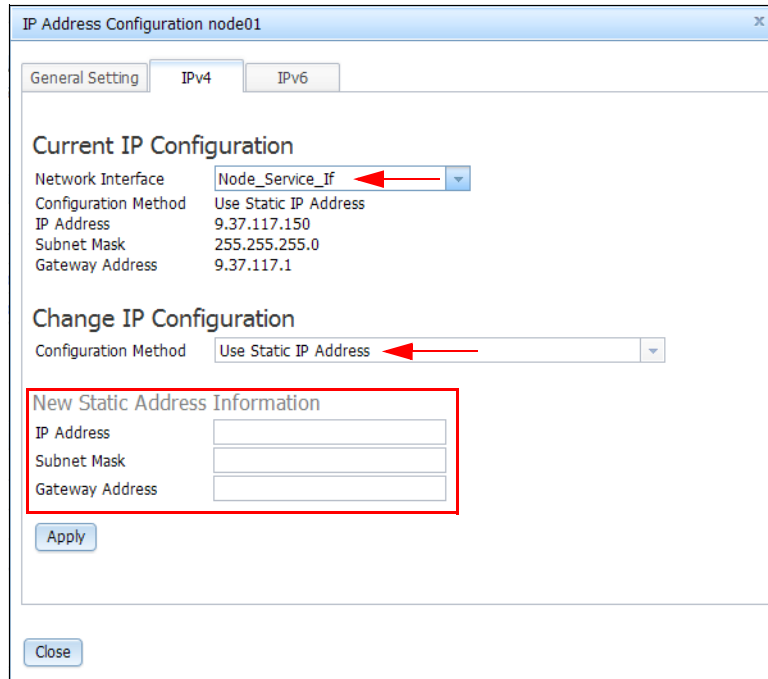

Figure 4-38 Change Service IP by CMM procedure
If the CMM in the chassis is operating and reachable, you can use the CMM to change the Service IP address of a node canister, as shown in Figure 4-38.
4. Select **Node\_Service\_If** as the Network Interface and select the Configuration Method you want to use. If the selected Configuration Method is to Use Static IP address (as shown in Figure 4-38), type the Static IP address, Subnet Mask, and Gateway address for the New Static IP Configuration.